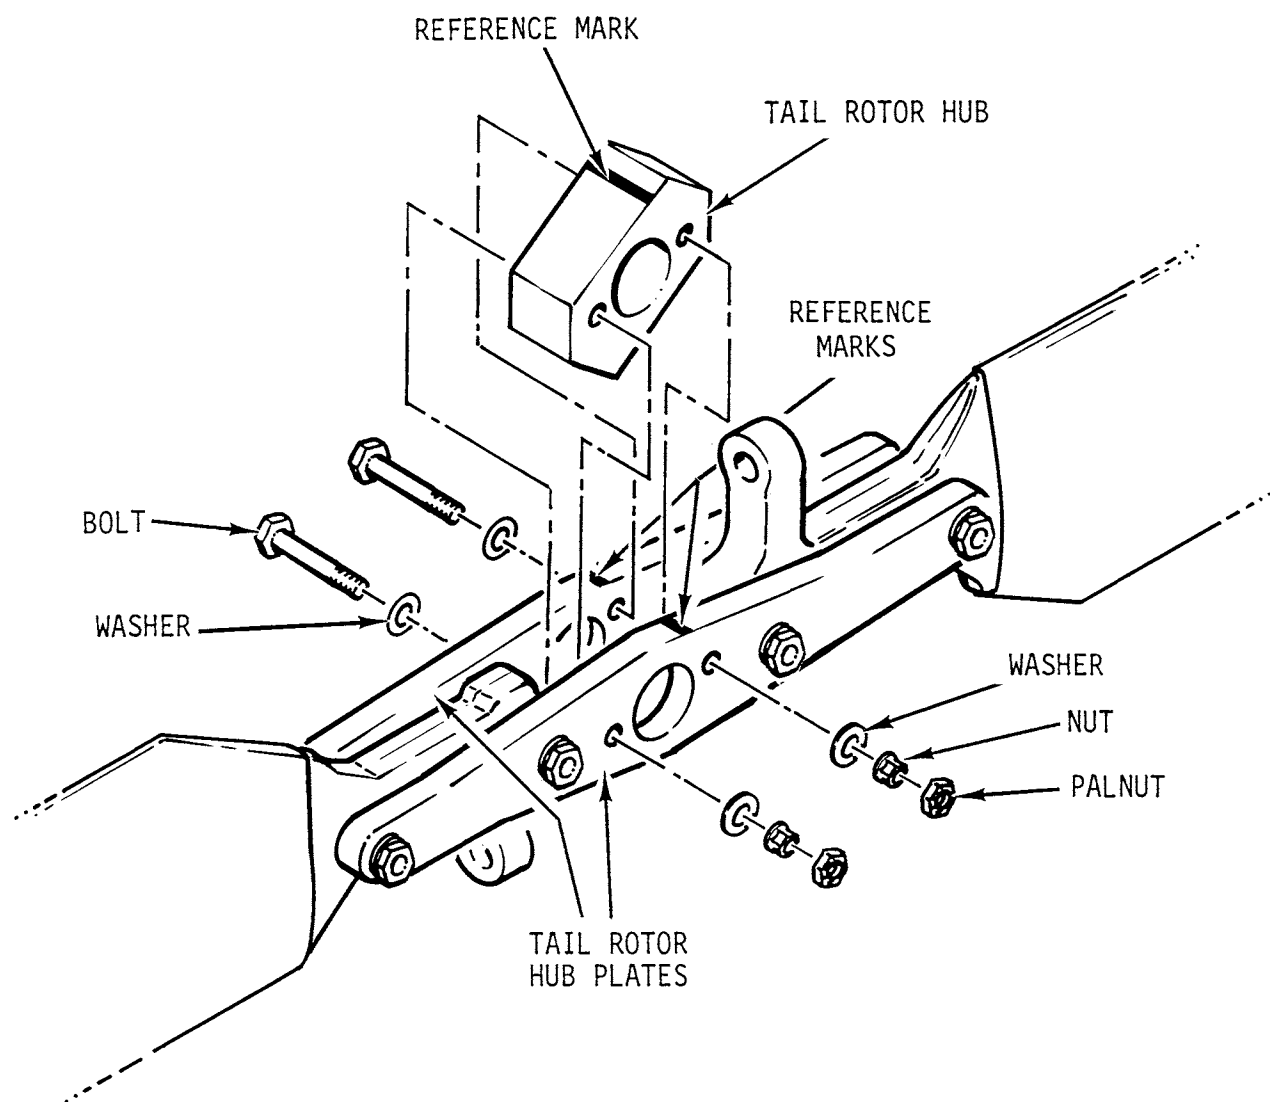

FIGURE 9-13 TAIL ROTOR HUB REMOVAL FOR BEARING REPLACEMENT
2. Mark hub per Figure 9-13.
3. Loosen four blade retaining bolts. Remove two center bolts securing hub between hub plates and remove hub (see Figure 9-13).
7. Reinstall hub between hub plates per reference mark (see Figure 9-13). Torque two center hub and four blade retaining bolts per Section 1.320, install palnuts, and torque stripe.